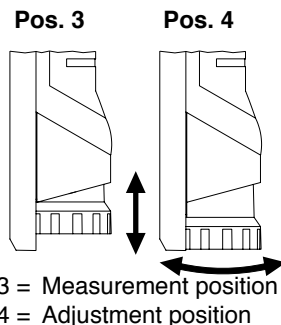

FIG. 6
The 3-roller-system for tension measurement relies on the displacement of the middle roller (measuring roller) to give an indication of the line tension. As the material thickness changes, there will be a change in the tension reading, even when the line tension has not changed. To compensate for this effect, high-range instruments are usually equipped, as necessary, with a material thickness compensator, which automatically shifts the outer rollers. To adapt the tension meter to the diameter of the material to be measured, push the thumbpiece into the adjustment position “0” (Section 4.0) and pull the thumbwheel of the material thickness compensator backward to the adjustment position (Figure 6). Turn it clockwise or anti-clockwise until the desired diameter, such as , appears in the upper right part of the display. Then push the thumbwheel
of the material thickness compensator back to the measurement position (Figure 6). If you set a diameter that has not been calibrated for the selected material characteristic, the set diameter is displayed with a black background color, e.g., **ø0.26mm** the tension meter can be used anyhow, but please note, that depending on the material to be measured, slight deviations in the measured values might occur.
1. The thumbpiece must be in the adjustment position(4) (Fig. 6).